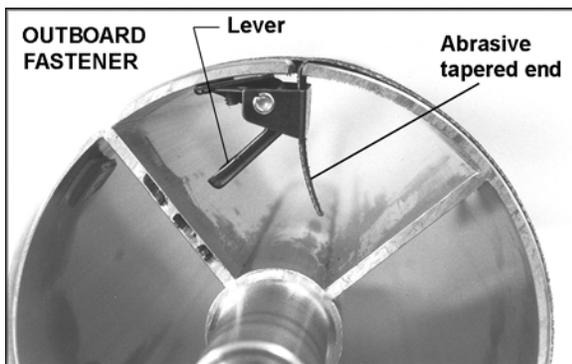

Figure 8
2. Raise fastener lever as shown in Figure 8 on outboard end of drum, and insert tapered end of abrasive so that it uses most of slot width. Release fastener lever to securely hold strip end to fastener.